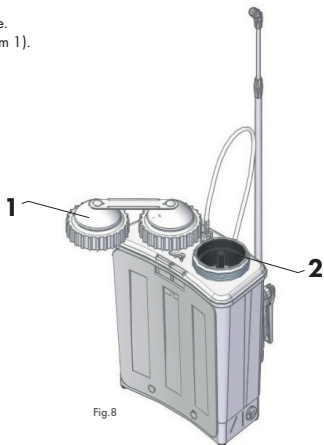

Fig.8
Unscrew the filling unit safety cap (Fig. 8/item 1).
Pour the previously prepared spraying liquid through the strainer underneath (Fig. 8/item 2). Any dirt which may have found its way into the strainer should be discarded. Screw on filling unit safety cap. The strainer can remain under the cap. Move the sprayer to the workplace. Now you can put the sprayer on your back and adjust the straps. **Lift the sprayer by the straps without the safety buckle.** Adjust and fasten the hip belt. Point the lance spray tip at the spray area and begin spraying by using the lever on the lance handle (Fig. 11/item 2). Spray in the direction of the wind.